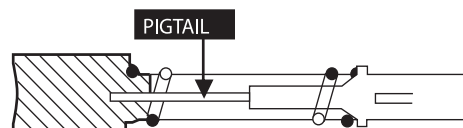

Figure 33: Brush Pigtail.
- b. If the brushes are excessively worn as to expose the pigtail (Figure 33), sparking will occur at the surface of the slip ring, causing surface damage. Therefore, periodic inspection of the brushes is important.